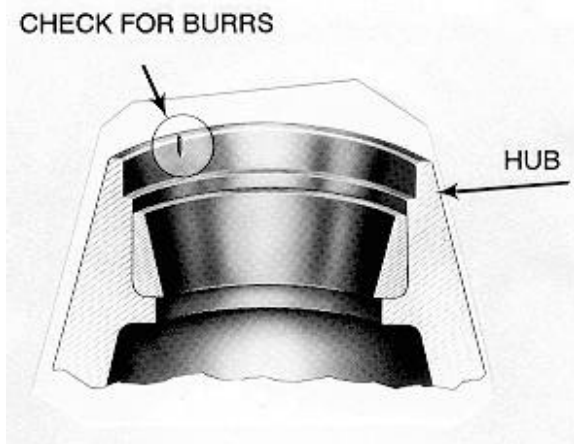

Figure 22 Check Hub for Burrs
2. All burrs from inside back edge of hub must be removed. Hub must be smooth and free from burrs which will scratch the outside diameter of seal (Figure 22).